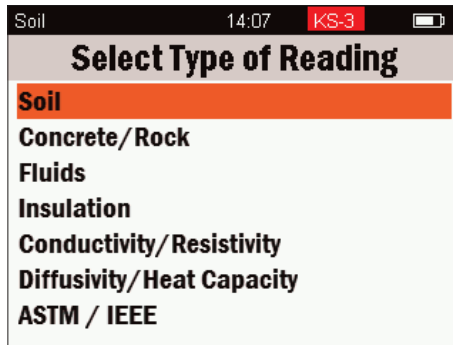

Figure 20 Select Type of Reading menu
The Select Type of Reading screen (Figure 20) will open. Within this menu, specialized configurations for specific materials and applications can be chosen (Table 3). Additional custom-configuration options for readings are also available.
4. Navigate to the desired type of reading from the Select Type of Reading menu (Figure 20).